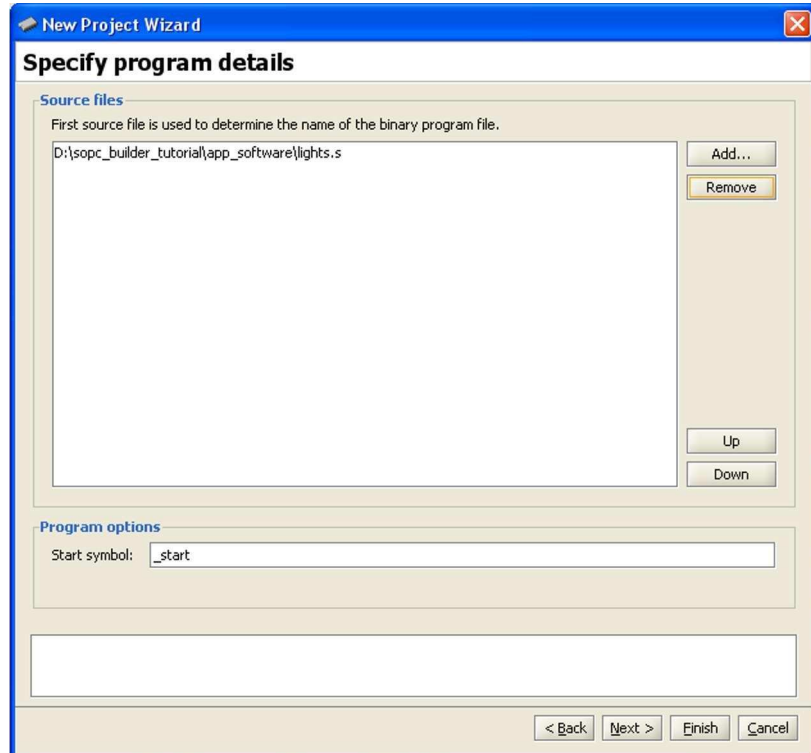

Figure 24. Specify the binary file to use.
7. Select Assembly Program as the program type from the drop down menu and click **Next >**, leading to Figure 24.